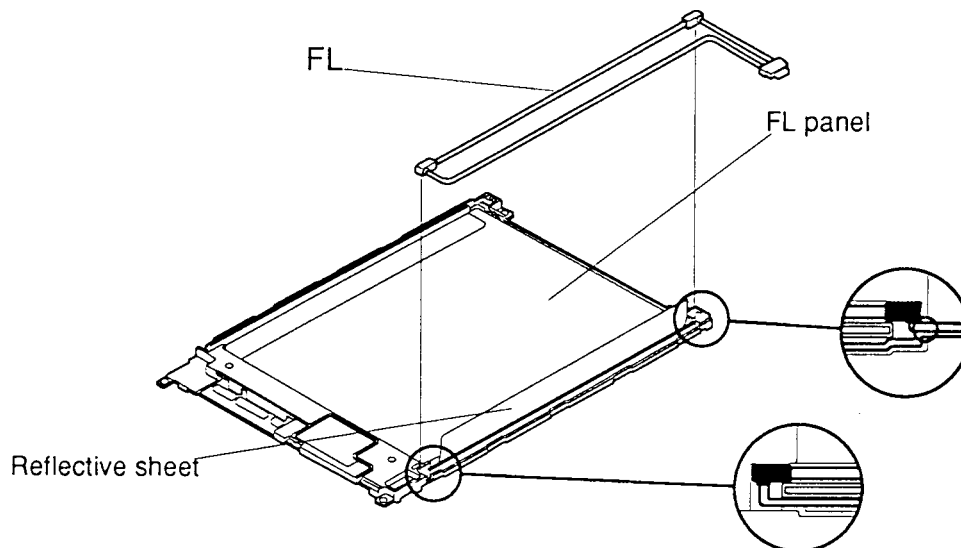

Figure 4-47 Removing the FL (T4700CS)
- Lift out the **FL** (figure 4-47).
1. Place the **FL** on the **FL unit** and cover the FL using a reflective sheet (figure 4-47).